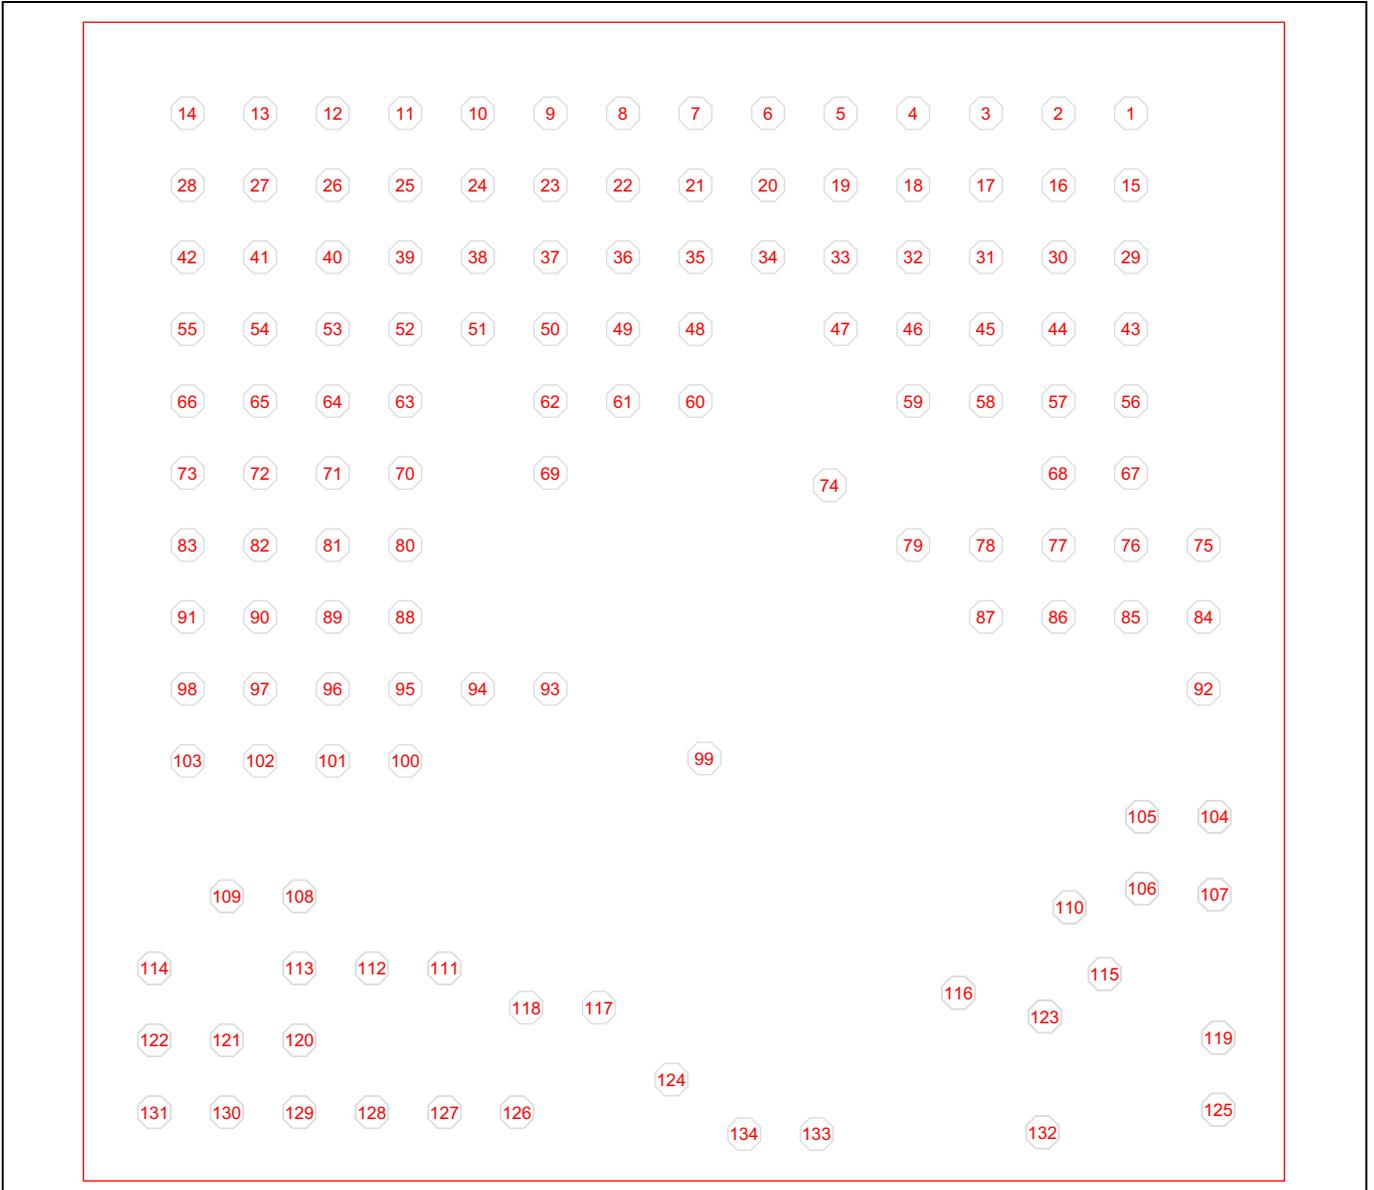

Figure 7 WLCSP ball map
CYW20719 WLCSP package is shown in Figure 7.
9. Figure 7 shows the bottom view of the WLCSP package (Bumps facing up).